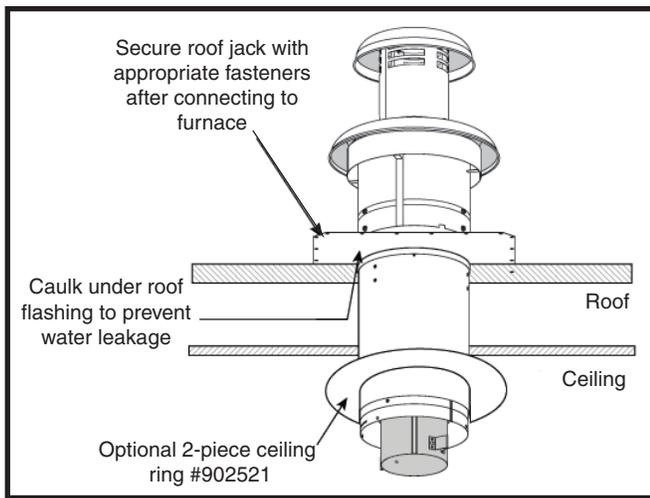
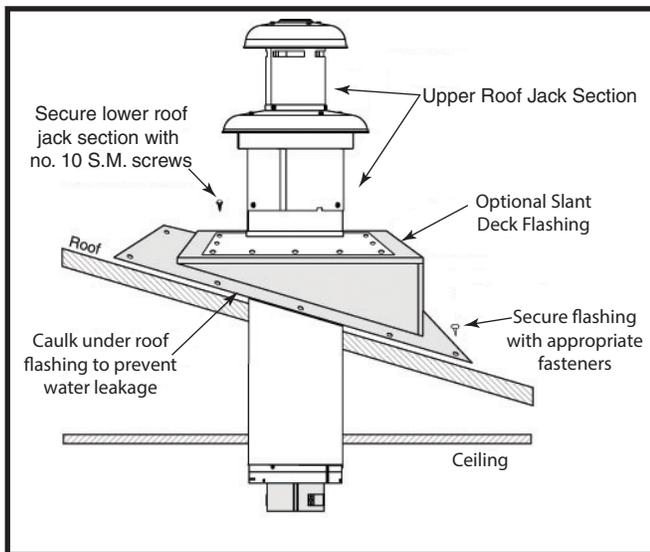

Figure 21. Flat Roof
Figure 22. Pitched Roof
1. Apply caulking compound on underside of roof flashing to form a continuous strip at least 3/8” wide around the underside of the perimeter of the flashing. For flat roof, see Figure 21 or see Figure 22 (page 12) if roof is pitched.